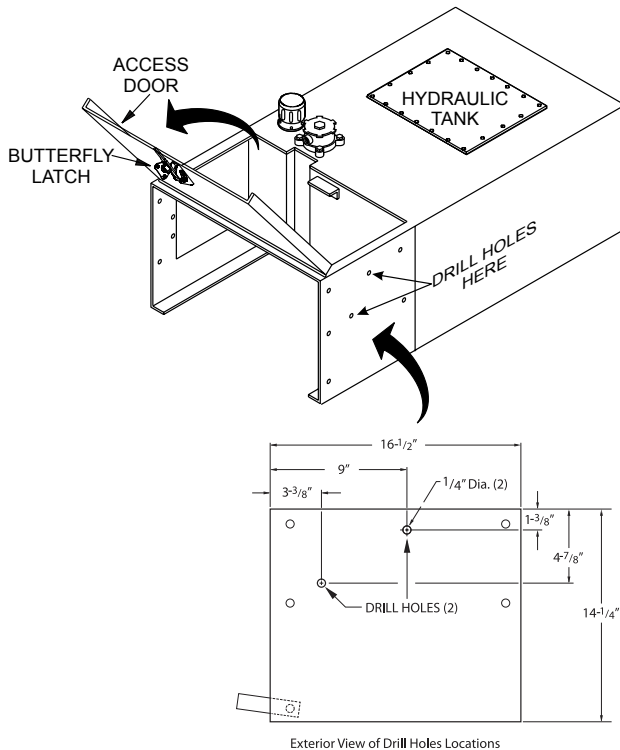

Figure 2. Cold Start Relay Control Box Mounting Holes
2. Using a 1/4-inch drill bit, drill 2 holes as shown in Figure 2 for the mounting of the Cold Start Relay Control Box.